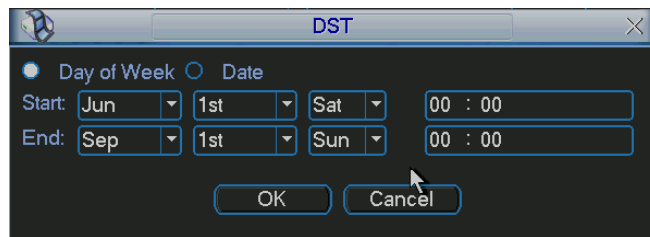
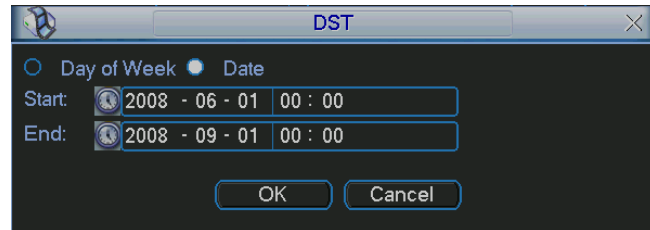

Figure 3-36
Figure 3-37
- DST: Here you can set DST time and date. Please enable DST function and then click set button. You can see an interface is shown as in Figure 3-36. Here you can set start time and end time by setting corresponding week setup. In Figure 3-36, enable date button, you can see an interface is shown as in Figure 3-37. Here you can set start time and end time by setting corresponding date setup.